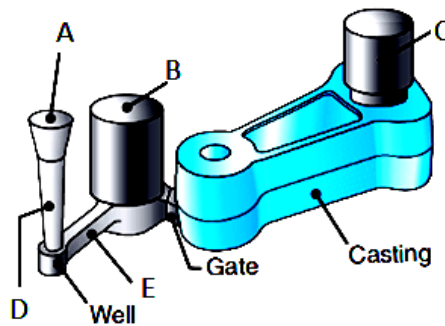

Figure 7: Product of cast component by sand casting
- a) Figure 7 below displaying a component cast by Sand Casting. Name the missing label.